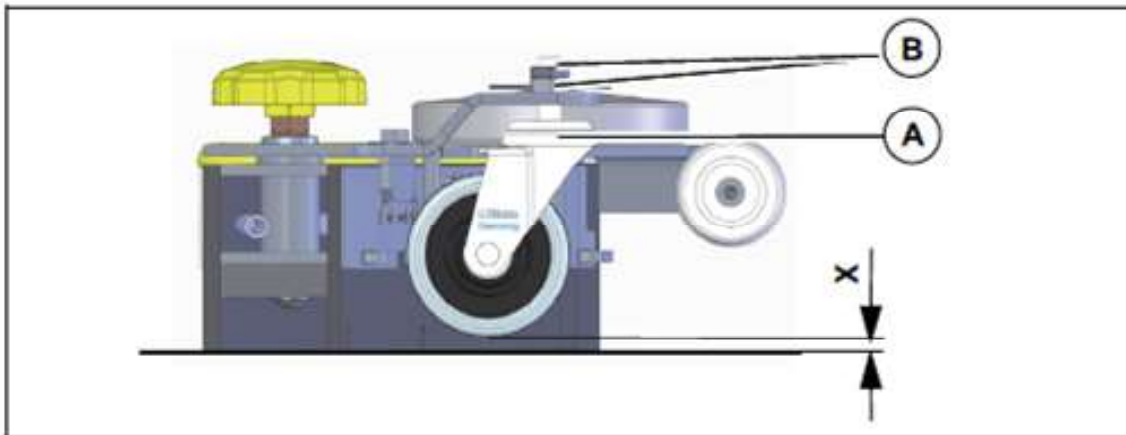

Figure 7.4
The height adjustment (X) of the supporting rollers Fig. 7.4 has been set to 7 mm in the factory. If striping still occurs despite optimum inclination adjustment, readjust the distance between the supporting rollers and the lower edge of the sealing strip.
3. Loosen nuts (figure 7.4 B) and adjust distance between supporting roller and ground as per the table.